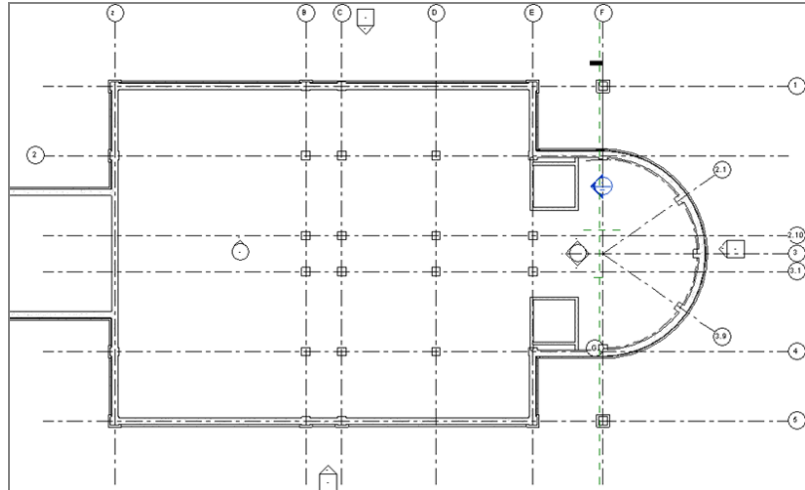

FIGURE 8.69: The completed foundation
15. Add these footings to each pier. The At Columns option on the Multiple panel works like At Grids and will speed up your work. Your foundation plan should resemble Figure 8.69.